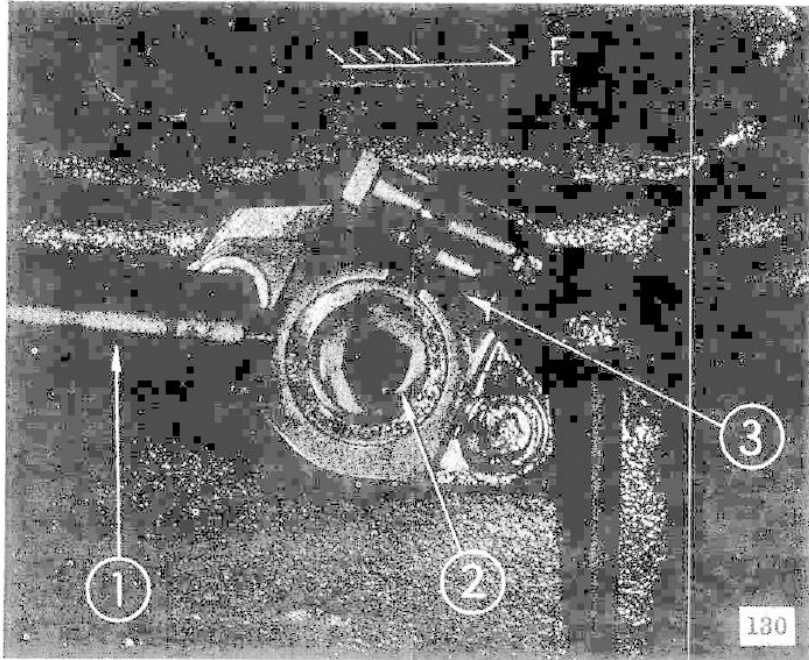

Fig. 3 Assembly Angle of Drive Shaft
4. Adjusting the direction of the rotor so that it engages the drive shaft slot, mount the distributor to the engine. During this assembly the directions of the distributor and rotor must be as shown in Fig. 3. At the same time, the breaker must be in its position when it is just beginning to open. If these conditions do not coincide, they are made to do so by slightly turning the distributor body only. To determine the position when the breaker point is just beginning to open, turn on the ignition key; hold the end of the No. 1 spark cord about 1/4 inch away from the cylinder head; and turn the body until spark jumps across the gap.